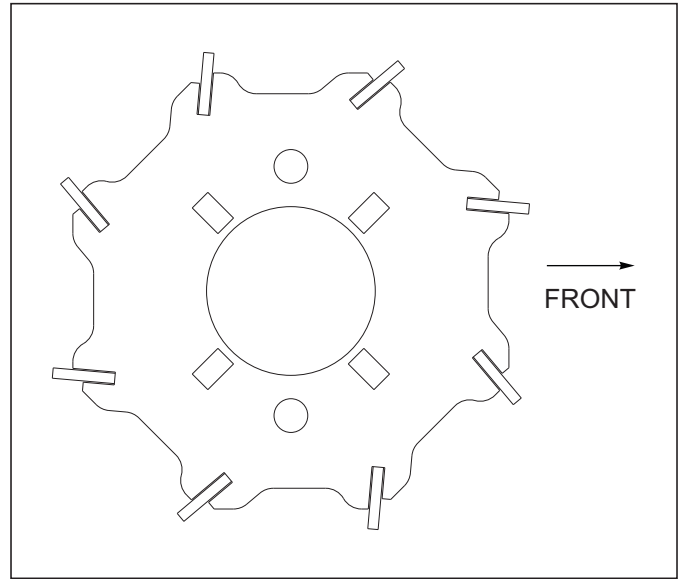

Figure 3-35: Flat Reel
7. Attach flat bar reels with angled blades as shown See Figure 3-35.